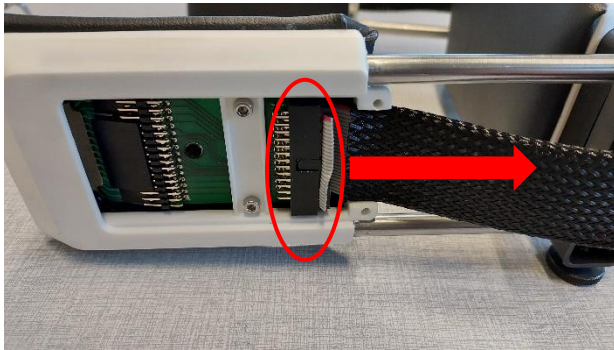

Figure 17. Pull and unplug the connector.
4. Firmly pull and unplug the connector (See Figures 17 and 18).